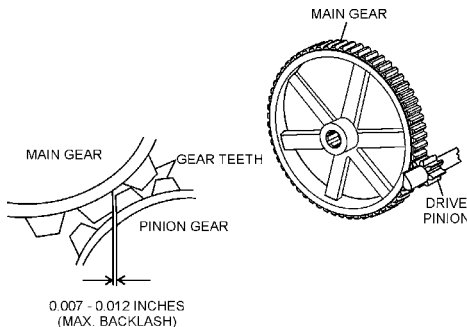

Figure 27. Drive Pinion and Main Gear (Backlash)
5. Using your hand, slightly move (rock) the drive pulley back and forth to determine the amount of backlash. Insert feeler gauge between gears to determine backlash distance. Backlash should range between 0.007- 0.012 inches (Figure 27).